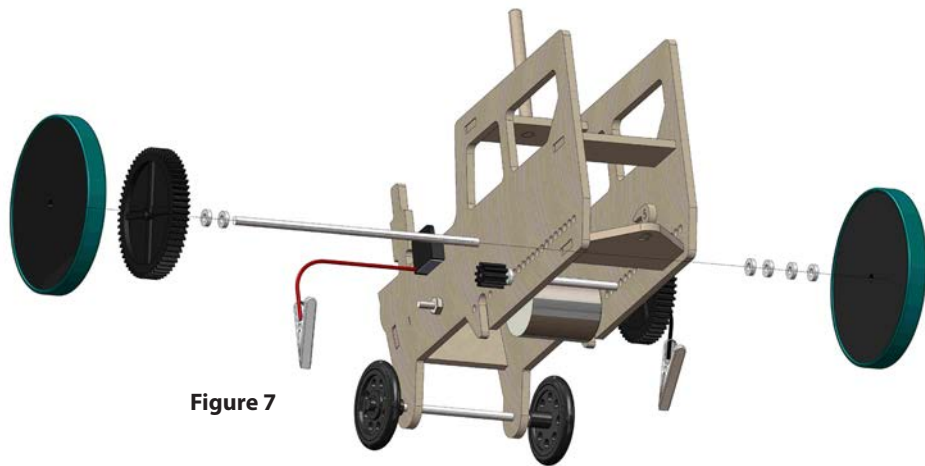

Figure 7
5. Insert the 4" axle through the eighth hole from the back of the tractor. Put four spacers on the end of the axle closest to the motor and put two spacers on the other end (Figure 7).
6. On the end with four spacers, attach a large wheel. On the end with two spacers, attach a 60T gear with a 1/8" hole so that it meshes with the 10T gear in front of it. About 1/2" away from the 60T gear, attach a big wheel to the end of the axle (Figure 7).